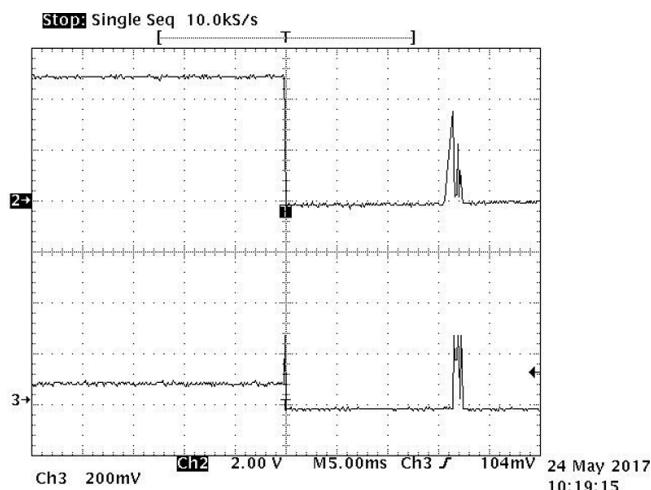
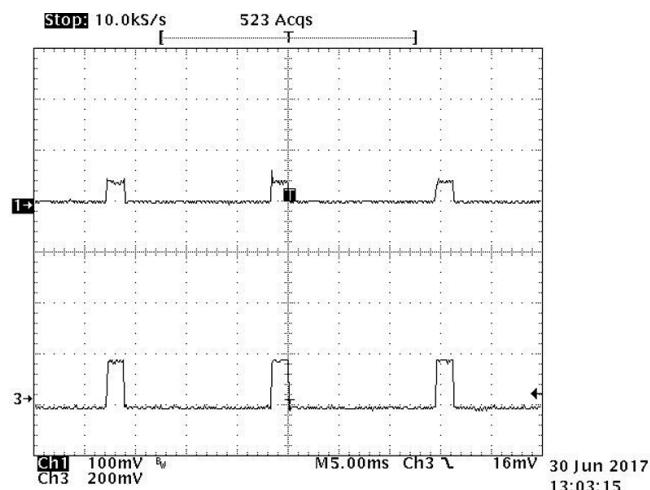

图 18. Overcurrent Protection
图 19. Short-Circuit Protection
The upper curve (1) is the output voltage with an oscilloscope in DC-coupling mode with 2 V/div (图 18) and 100 mV/div (图 19). The lower curve (2) is the output current with the current probe of 100 mV/A with 200 mV/div.
As shown in 图 18 and 图 19, when the current is rising to the current limit level, the device enters overcurrent protection as described in the TPS561201 datasheet \(SLVSC95\). After waiting the pre-programmed time, the device tries to restart. Once the fault condition is removed, the device starts normally.